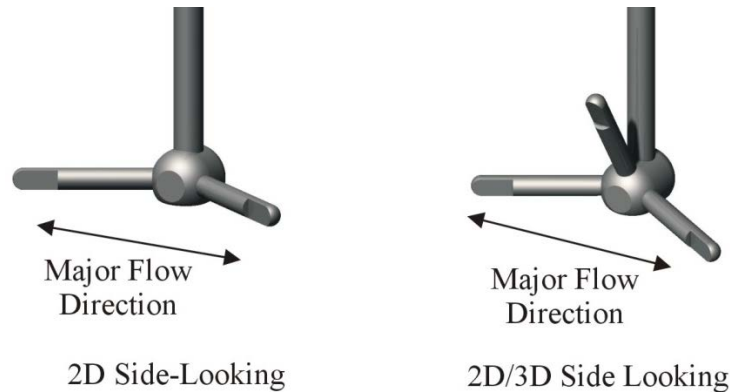

Figure 13:6 - Preferred Flow Direction to Avoid Flow Interference
- a) The FlowTracker should be oriented so the axis of the transmit transducer is roughly perpendicular to the expected direction of flow (see Figure 13:6).